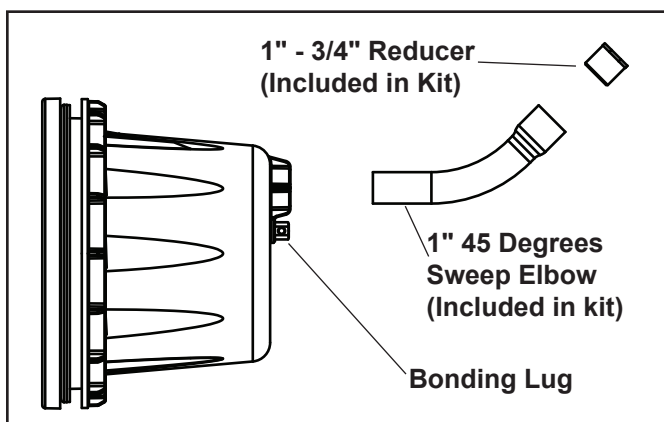

Figure 3. Plastic Niche Installation
- e. Attach conduit to the back of niche using the proper PVC/CPVC primer and glue. A one (1) inch PVC 45 degrees sweep elbow is included with the niche to direct the conduit pipe upwards toward the junction box. (A $\frac{3}{4}$ inch reducer is also included with the niche to permit the use of $\frac{3}{4}$ inch conduit pipe). See Figure 3.